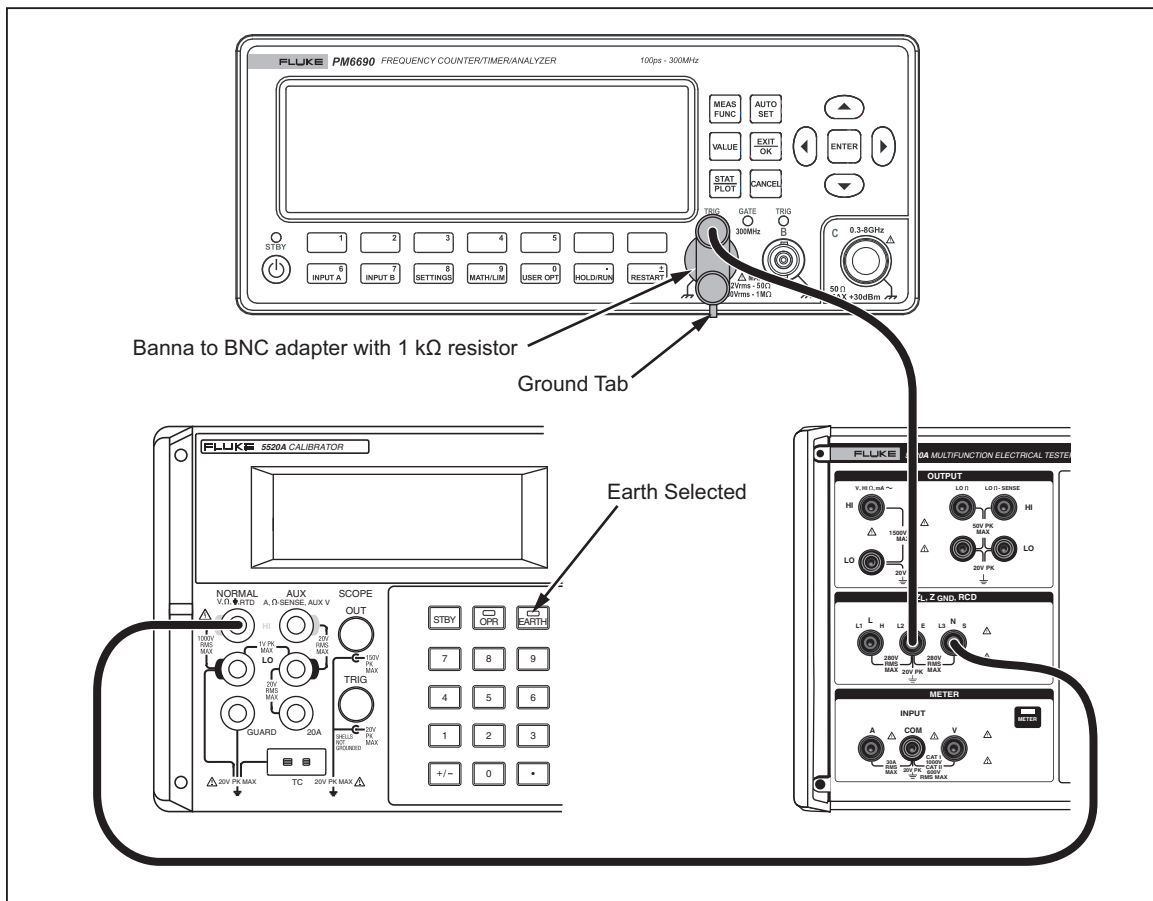

Figure 3-33. Trip Time Verification Connections
12. Connect the Calibrator, Fluke 5520A multifunction calibrator and Fluke counter/timer as shown in Figure 3-33.